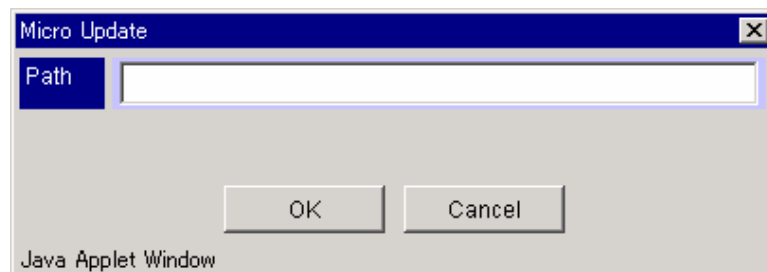

Figure 9.41 Micro Update Dialog Box
6. When a window for specifying a revision directory in which the read microprogram exits displays, enter this directory. See Figure 9.41. When **OK** is clicked, reading the microprogram is started.